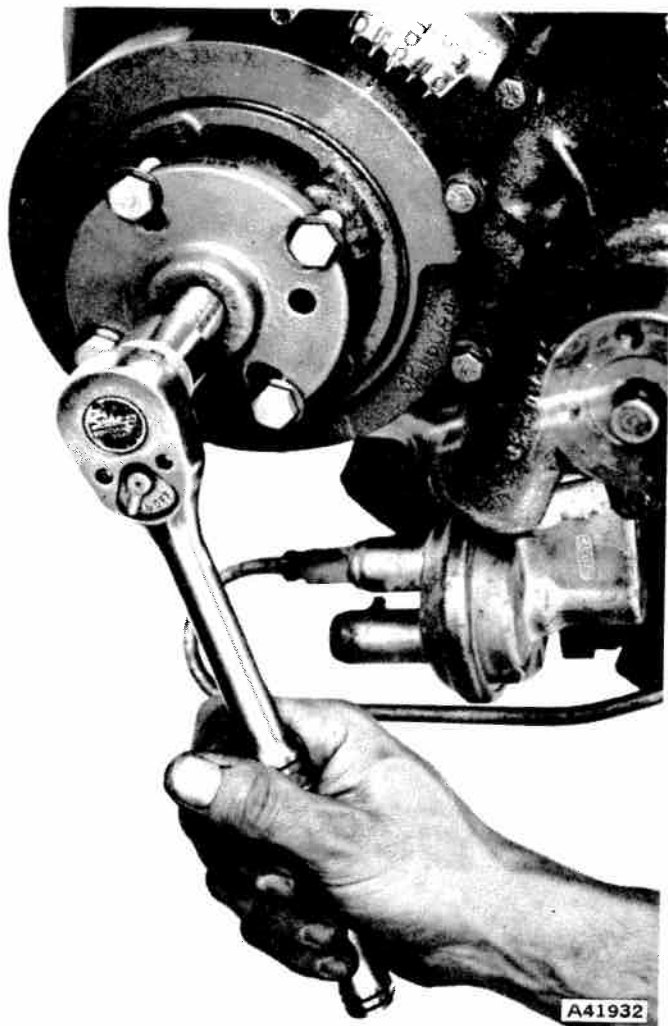

Fig. 1B-19 Vibration Damper Removal
(1) Loosen alternator drive belt.
(2) Loosen air conditioning drive belt and move aside, if so equipped.
(3) Loosen power steering drive belt and move aside, if so equipped.
(4) Remove drive pulley retaining bolts and drive pulley from damper.
(5) Remove damper retaining bolt.
(6) Use Vibration Damper Removal Tool J-21791 to remove damper from crankshaft as shown in figure 1B-19.